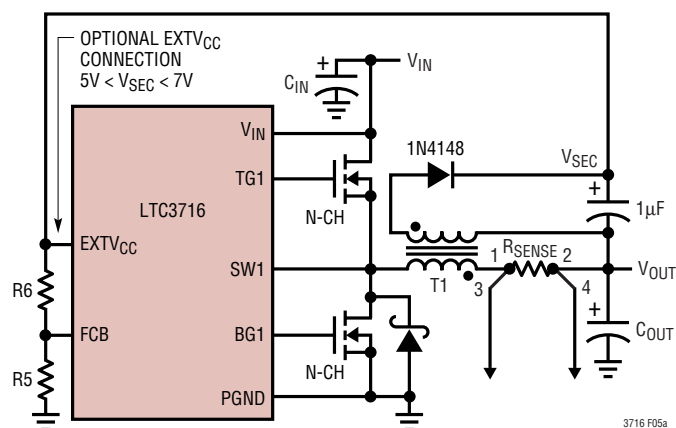
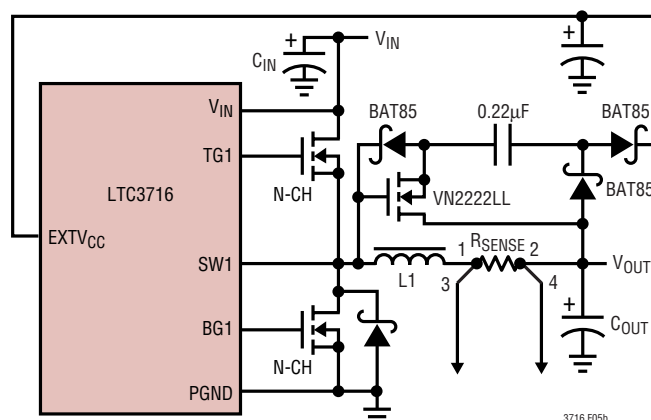

Figure 5a. Secondary Output Loop with EXTV_{CC} Connection
Figure 5b. Capacitive Charge Pump for EXTV_{CC}
4. EXTV_{CC} connected to an output-derived boost network. For 3.3V and other low voltage regulators, efficiency gains can still be realized by connecting EXTV_{CC} to an output-derived voltage which has been boosted to greater than 4.7V but less than 7V. This can be done with either the inductive boost winding as shown in Figure 5a or the capacitive charge pump shown in Figure 5b. The charge pump has the advantage of simple magnetics.
The secondary output voltage V_{SEC} is normally set as shown in Figure 5a by the turns ratio N of the transformer:
where $R5$ and $R6$ are shown in Figure 5a.